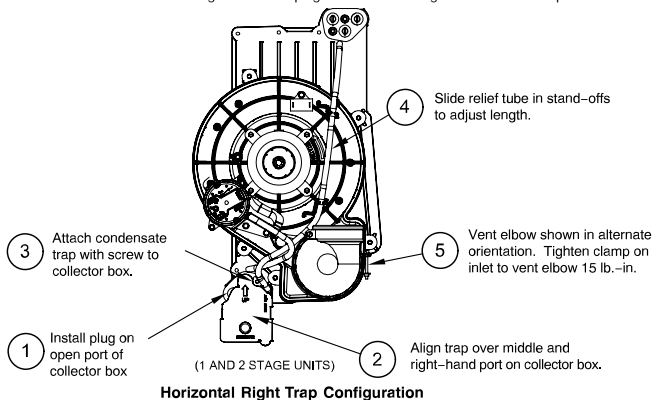

Fig. 10 – Horizontal Right Trap Configuration (Appearance may vary)
When the furnace is installed in the horizontal right position, the condensate trap will be initially located at the bottom of the collector box, as received from the factory. See the top image in Fig. 10. When the furnace is installed in the horizontal left position, the condensate trap will be initially located at the top of the collector box, as received from the factory. See the top image in Fig. 11. In both cases the trap must be repositioned on the collector box for proper condensate drainage. See the bottom images in Fig. 10 and Fig. 11.
- Fig. 10 shows the condensate trap and tubing before and after relocation in the horizontal right position.